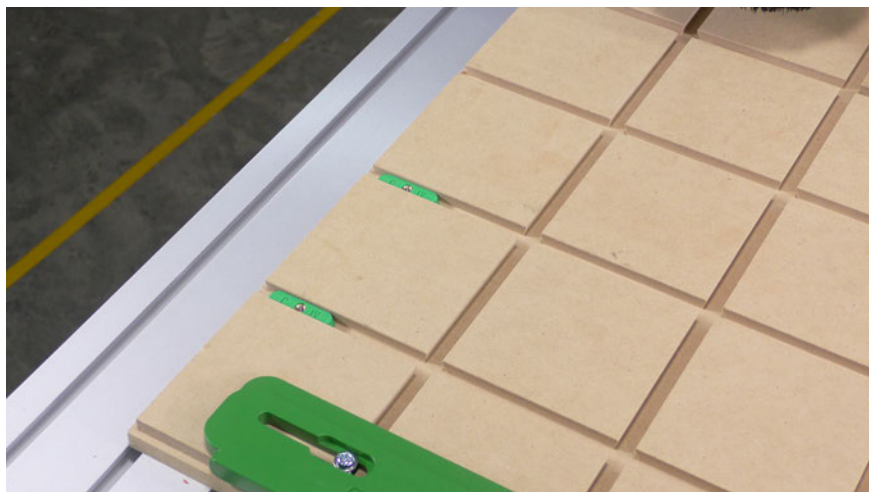

Fig 1a - Edge Setup 1
- 1.2. Set one Track Nut into each of two adjacent grooves where you want to position the Edge Guides. (Fig 1a)